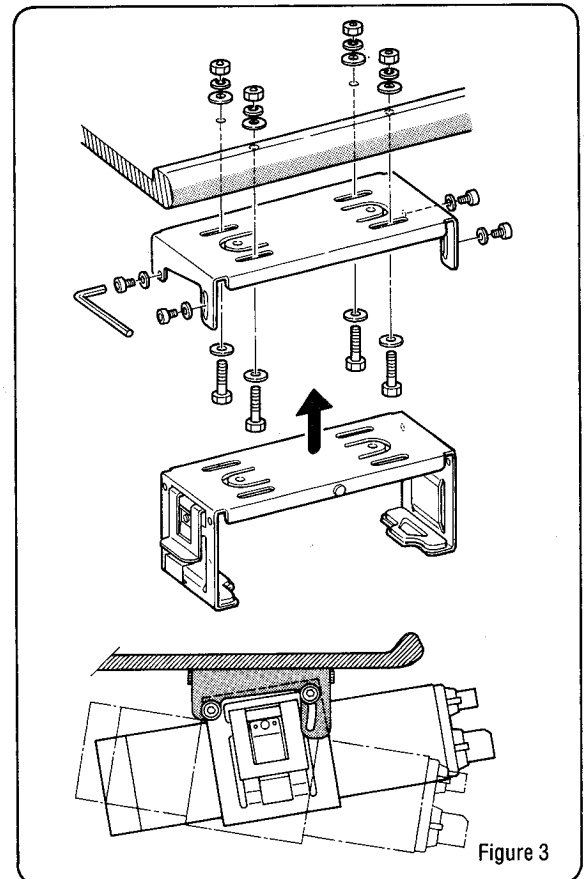

Figure 3
- ③ When the angle bracket is necessary, install it as shown in Figure 3. Installation angle is adjustable by unfastening four screws of the angle bracket.